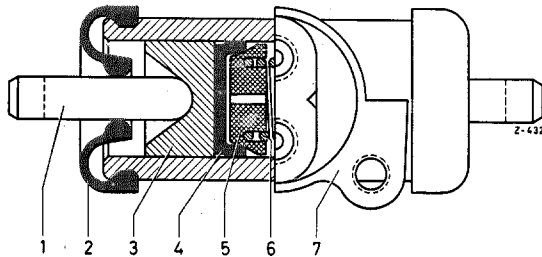

Fig. 42 — 7/2
9. Remove the actuating pins (1) and the two rubber boots (2) (Fig. 42 — 7/2).